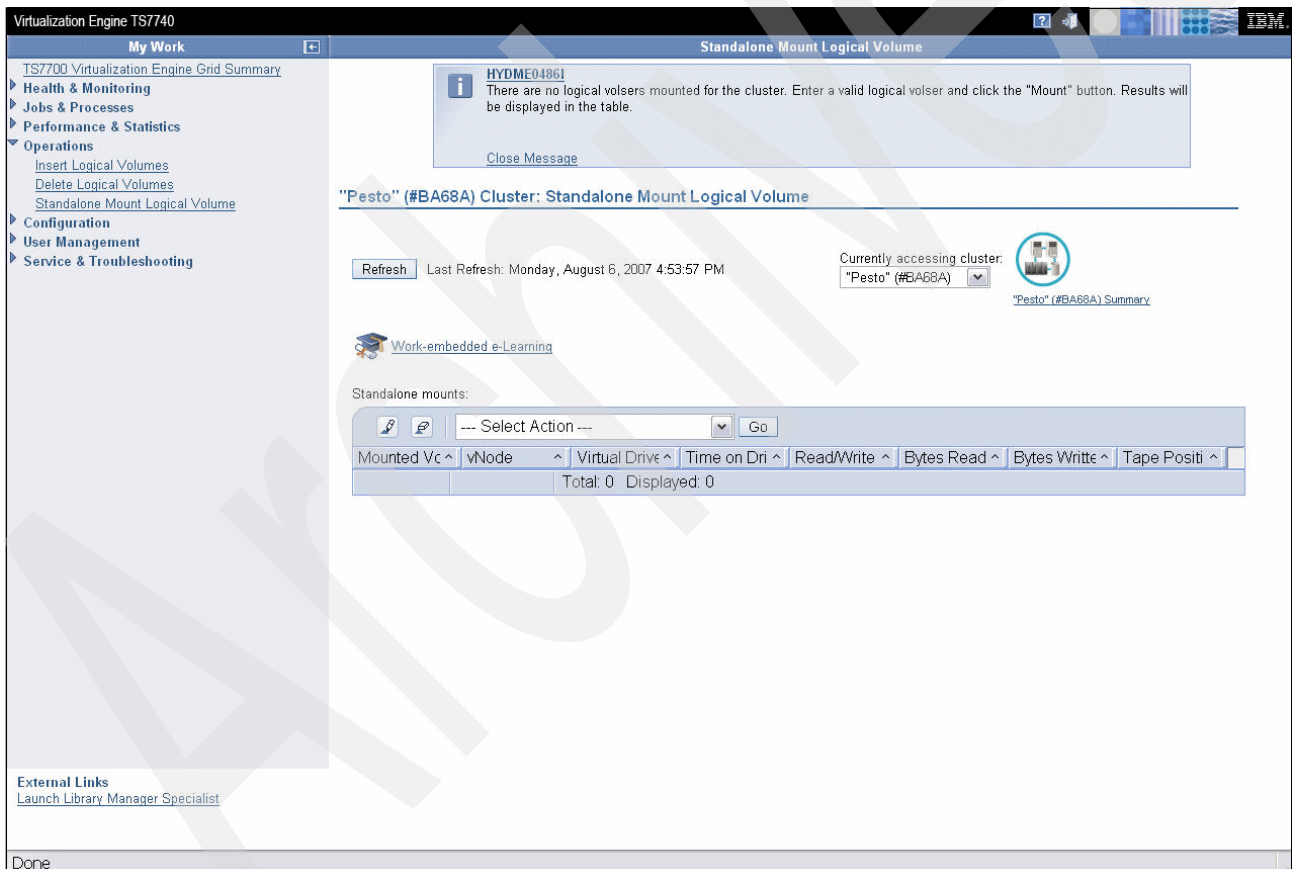
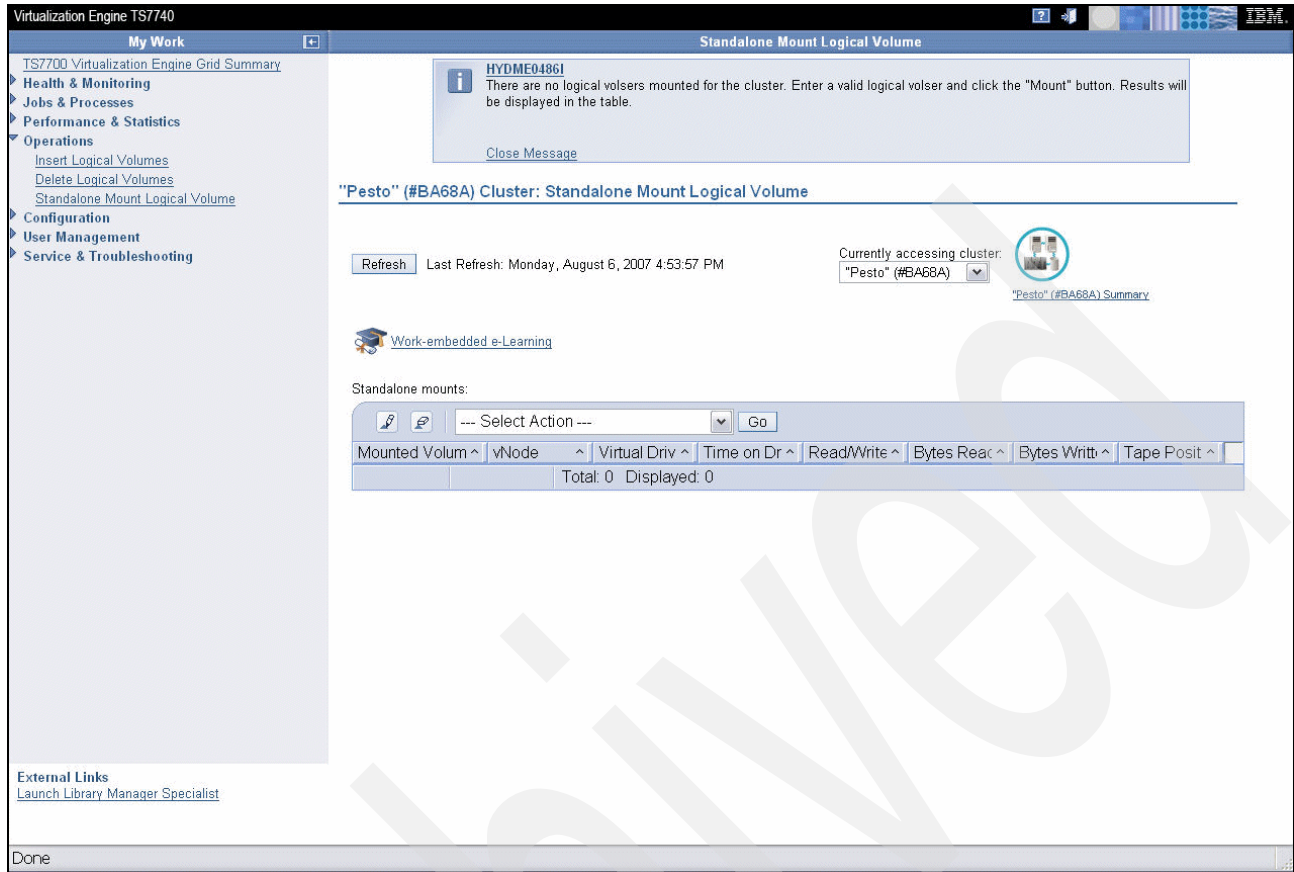

Figure 7-27 TS7700 MI Standalone Mount Logical Volume
Figure 7-28 TS7700 MI Standalone Mount New Logical Volume
Use this page (see Figure 7-27) to perform standalone mounts/demounts of logical volumes on an IBM TS7700 cluster.
1. From the Standalone Mount Logical Volume page (see Figure 7-27 on page 340), select **Mount New Logical Volume** from the Select Action drop-down list and click **Go**. A form for mounting a new logical volume is presented; see Figure 7-28.
**Note:** For a standalone mount of a TS7700 logical volume, use the panels shown in Figure 7-27 on page 340 and Figure 7-28 on page 342. A standalone mount request from the IBM 3953 Library Manager will not work for a TS7700 logical volume.